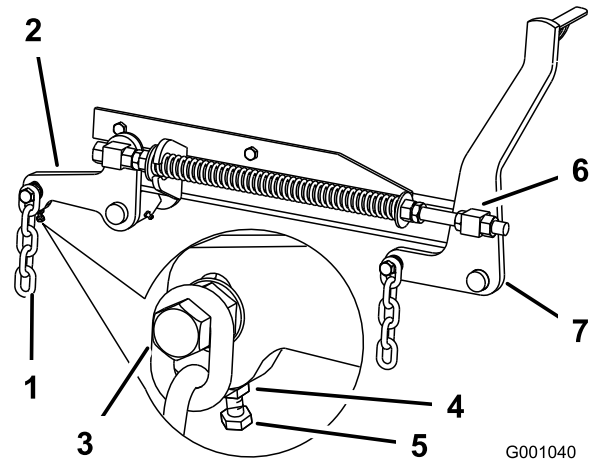

Figure 100
7. If the measurements at positions **B** or **C** are not correct, loosen the bolt attaching the rear chain to the rear-support arm (Figure 100).
8. Loosen the jam nut under the rear-support arm and adjust the adjustment bolt to get a measurement of 80 to 83 mm (3-1/8 to 3-1/4 inches); refer to Figure 100.
7. Loosen the front swivel jam nuts, at the front of the right and left swivels, approximately 13 mm (1/2 inch) (Figure 100).
8. Adjust the lift nuts on both the left and the right side of the machine to achieve 6 to 10 mm (1/4 to 3/8 inch) lower in front at **A** than in the rear at **B** (Figure 100).